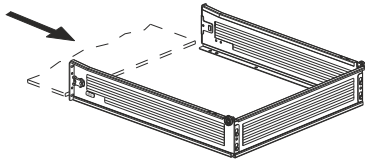

Fig. 4
8. Place the bottom flap through the track provided in the Side panels and fix the front facia with the Bracket and insert the unit onto Fixed slides which are fitted internal sides of cabinet (Refer Fig. 4).